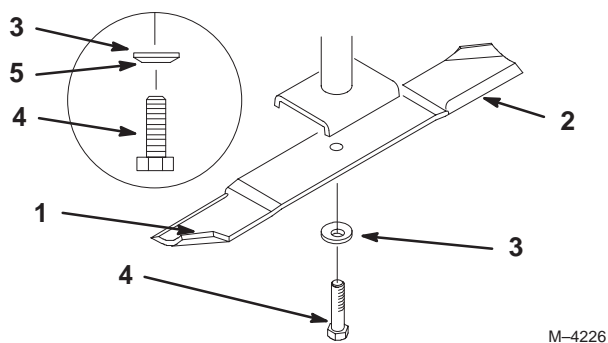

Figure 31
1. Hold the blade end using a rag or thickly-padded glove. Remove the blade bolt, spring disk and blade from the spindle shaft (Fig. 31).
2. Check the balance of the blade by putting it on a blade balancer (Fig. 30). If the blade stays in a horizontal position, the blade is balanced and can be used. If the blade is not balanced, file some metal off the end of the sail area only (Fig. 31). Repeat this procedure until the blade is balanced.
1. Install the blade onto the spindle shaft (Fig. 31).
2. Install the spring disk and blade bolt (Fig. 31). **Torque the blade bolt to 85–110 ft-lb (115–150 N•m).**